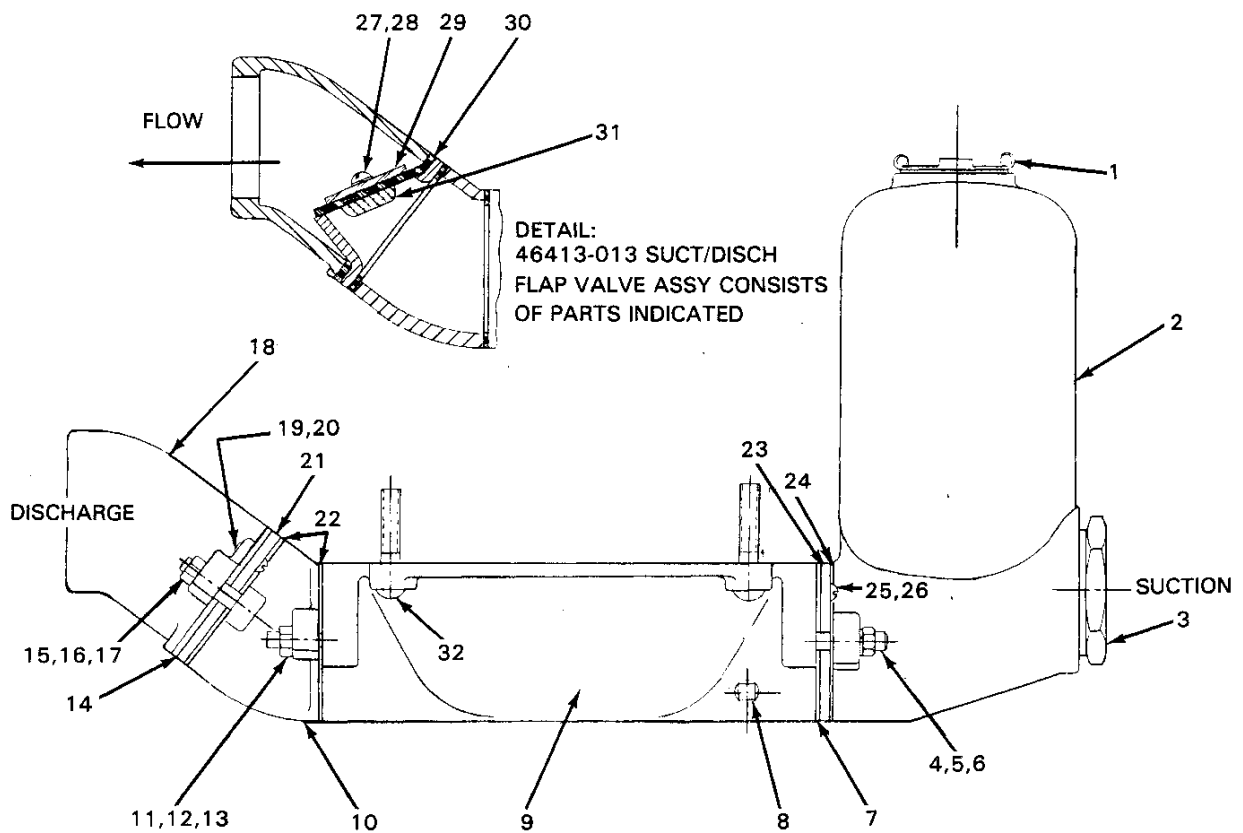

Figure 2. 46475-701 Diaphragm Pot Assembly
**Diaphragm Pot Disassembly (See figure 2)**